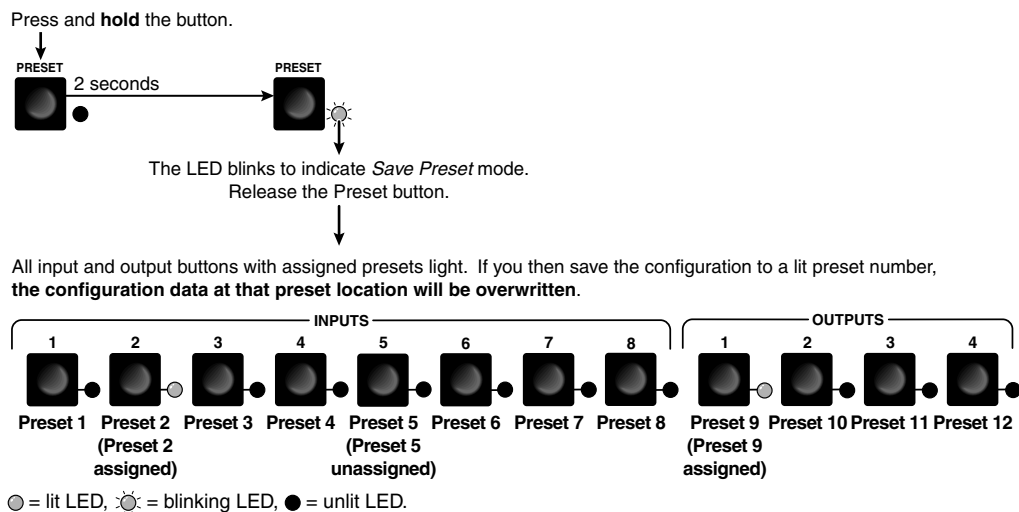

Figure 3-26 — Enter Save Preset mode, MVX 84
1. Press and **hold** the Preset button for approximately 2 seconds until the Preset LED begins blinking (figure 3-26).